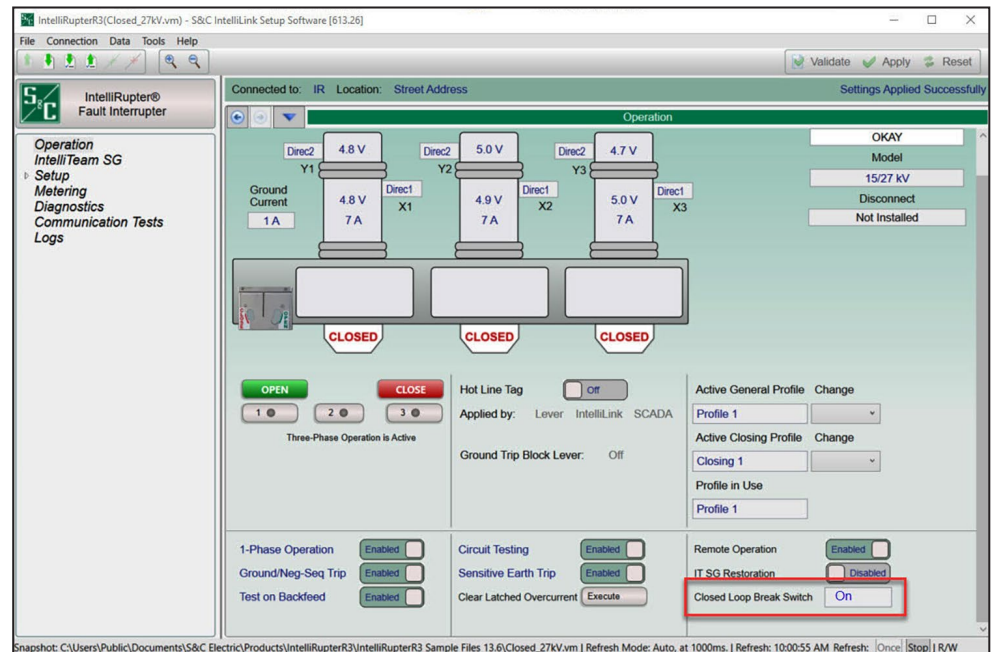

Figure 18. The IntelliRupter fault interrupter Closed-Loop Break Switch status box.
STEP 4. If the closed-loop break switch is an IntelliRupter fault interrupter, go to the *Operation* screen and verify the Closed Loop Break Switch status box indicates “On.” See Figure 18.